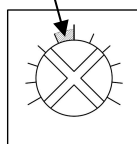

Fig 10
3) If the working light (blue) does not light, rotate the adjustment knob counterclockwise until the working light is on (usually when the working light is on, turn counter-clockwise one grid , as shown in Fig 10).